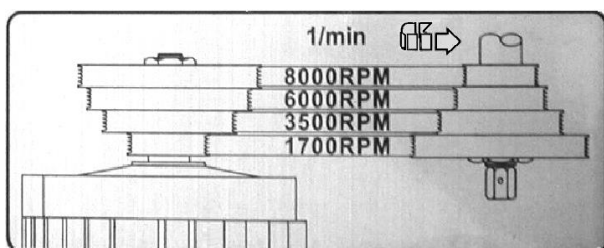

Fig 3.3
- If the direction of rotation is not correct, the phase converter inside the CCE Euro plug must be pushed in and turned 180°. (See rotation arrow on machine for correct rotation, Fig 3.3)